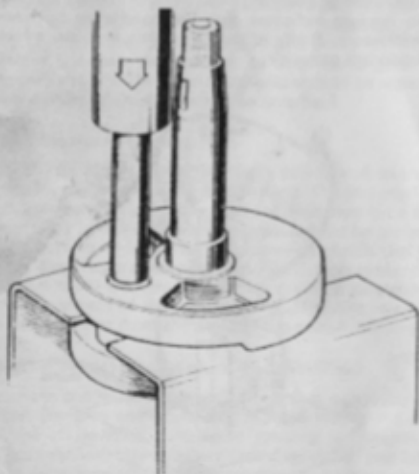

Fig. 16 Supporting the crankshaft assembly whilst pressing out the crankpin.
- 2 Using support rig, part No. ST 5166 below the top crankcheek as shown in Fig. 16 support the crankshaft assembly in a suitable press (a fly press is ideal).